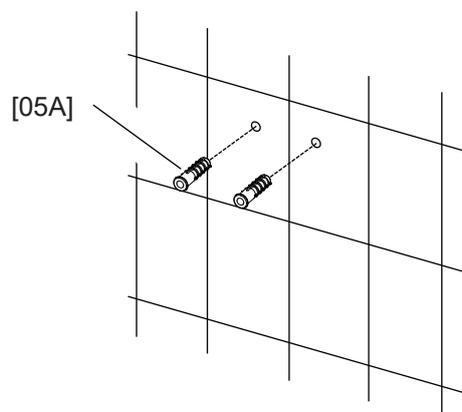

Fig 2.2
**2-2** Install the **Anchors [05A]**. (Fig 2.2)